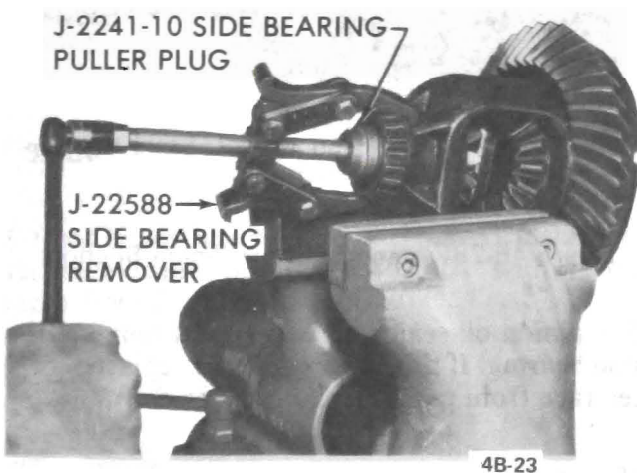

Figure 4B-23 - Removing Differential Side Bearings
2. Remove screw that retains differential pinion shaft. See Figure 4B-24. Remove differential pinions, side gears and thrust washers from case.